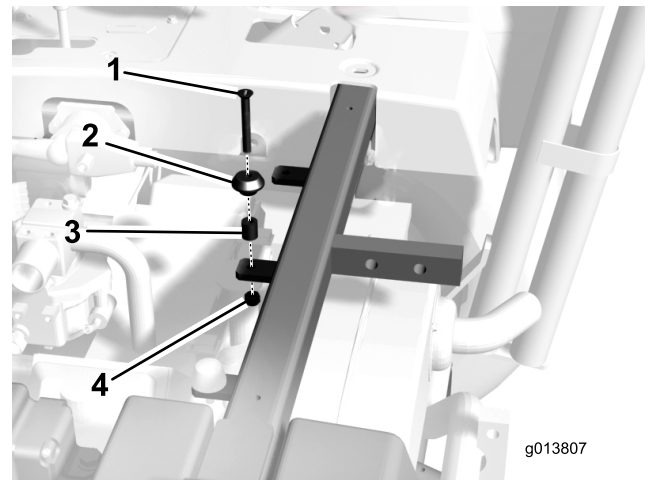

Figure 6
9. Remove the screw, spacer and nut securing the seat holding post to the frame tab (Figure 6).